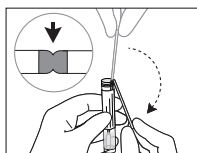

Fig. 2a
- Bend the swab shaft at a 180 degrees angle to break it off at the breaking point holding the tube away from the face. If needed, gently rotate the swab shaft to complete the breakage and discard the upper part of the swab shaft (Fig. 2a e 2b). If the swab used does not have a breakpoint, cut off the excess part of the shaft.